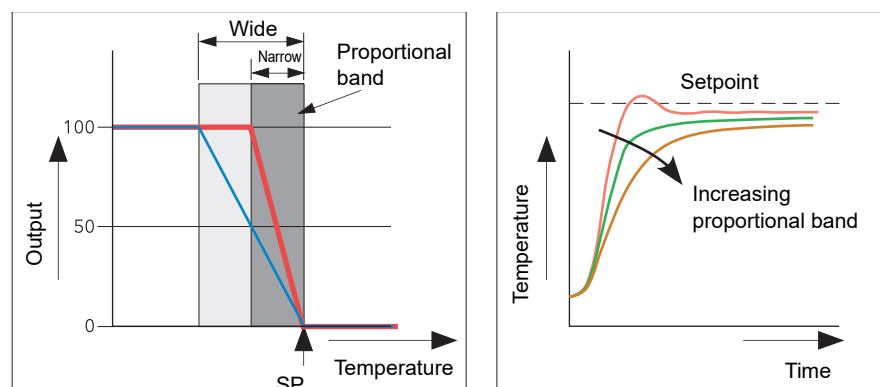

Figure 199 Proportional band action (reverse acting)
The proportional band (PB) delivers an output which is proportional to the size of the error signal. It is the range over which the output power is continuously adjustable in a linear fashion from 0% to 100% (for a heat only controller). Below the proportional band the output is full on (100%), above the proportional band the output is full off (0%) as shown in Figure 199.
Figure 199 also shows the effect of narrowing proportional band to the point of oscillation. A wide proportional band results in straight line control but with an appreciable initial error between setpoint and actual temperature. As the band is narrowed the temperature gets closer to setpoint until eventually, it becomes unstable.